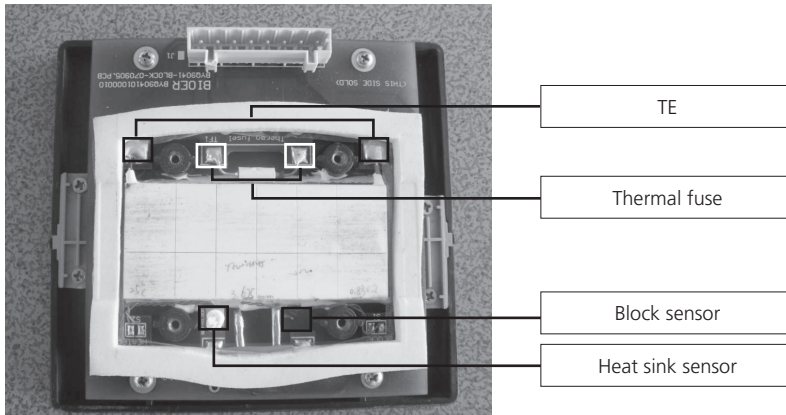

Fig.25
2.5.6 The heating and cooling part is as Fig. 25